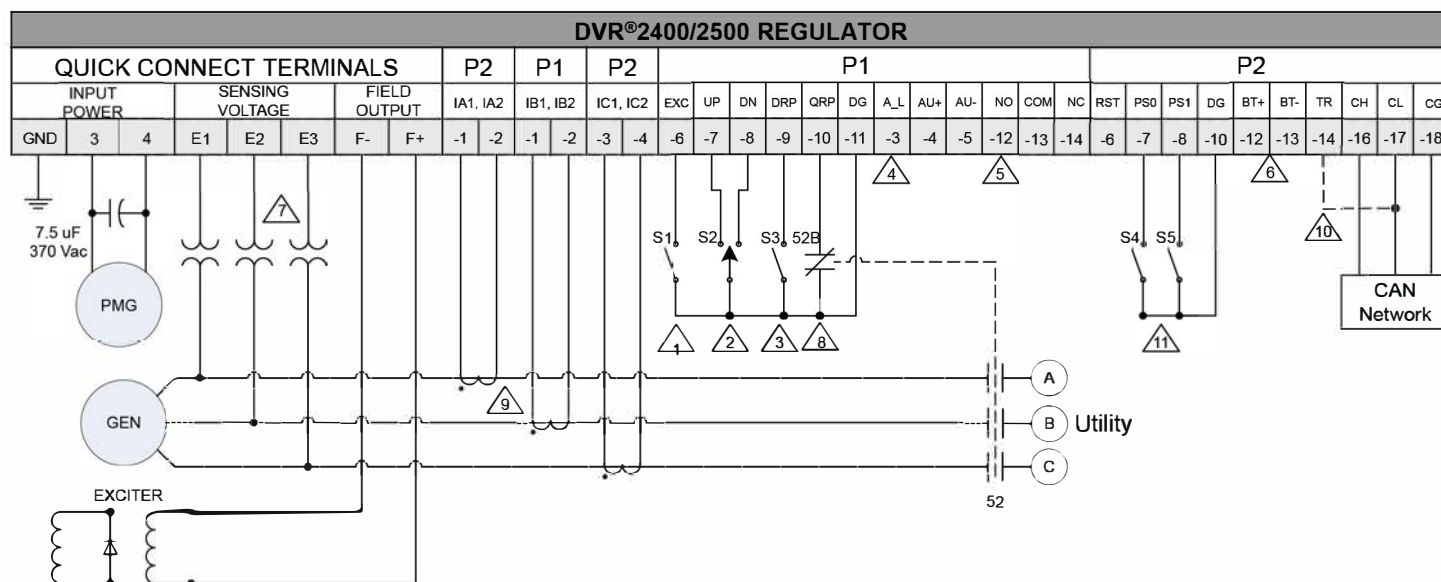

Figure 5-8. Typical Connections with ABC Rotation, Three-Phase Voltage Sensing and Three-Phase Current Sensing
- Figure 5-8 shows an application where the regulator is connected for three-phase voltage sensing and three-phase current sensing.